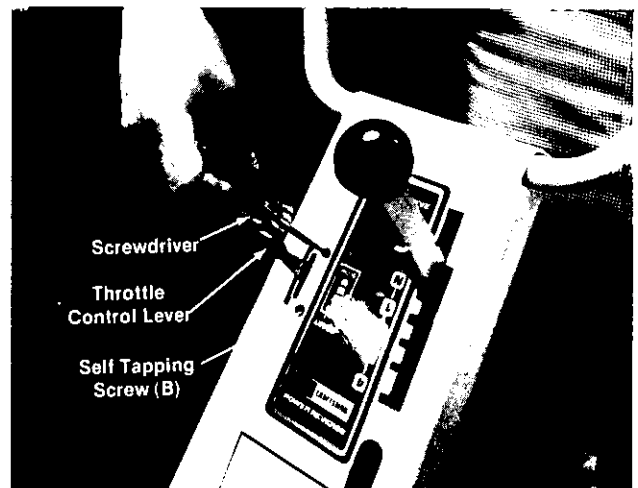

FIGURE 8.
Place throttle control lever up through the handle panel and secure with two self tapping screws (B), using a 1/4" flat screwdriver. See figure 8.